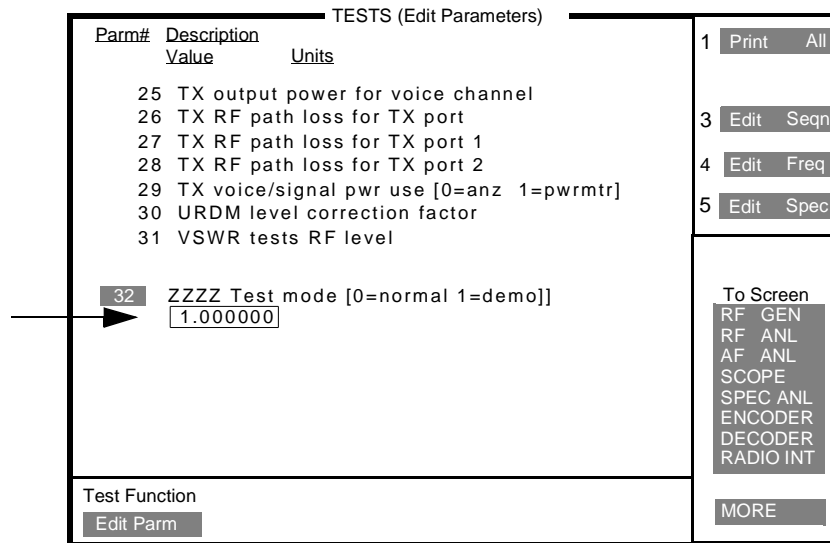

Figure 43
- 9 Using the techniques learned above, scroll to parameter 32, **ZZZ Test mode** [0=normal 1=demo] (see figure 43) and enter 1 for “demo” mode in the value field, and then press the ENTER key for the program to accept the entry.